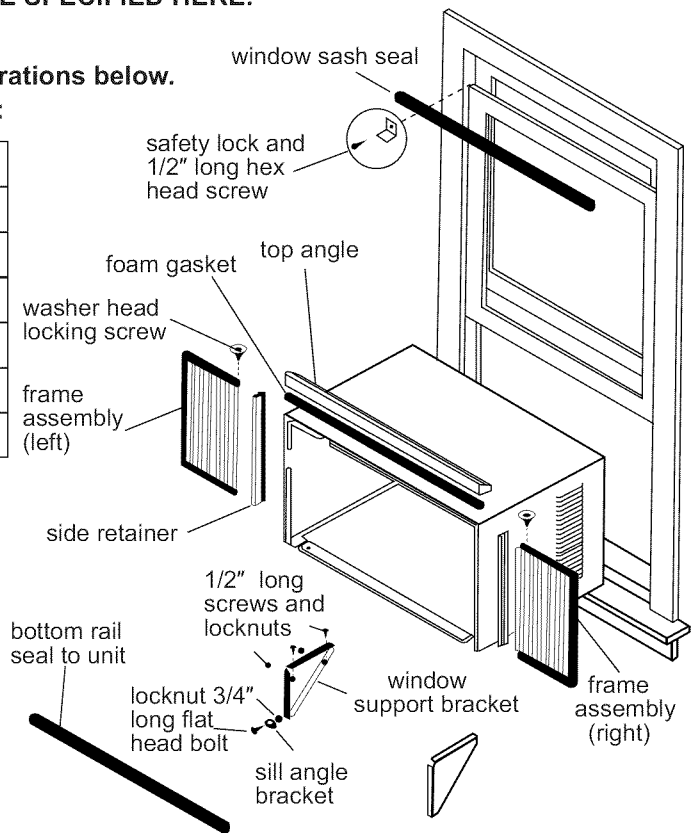

FIG.1
**1. Check window opening size:** the mounting parts furnished with this air conditioner are made to install in a wooden sill double-hung window. The standard parts are for window dimensions listed above. Open sash to a minimum of 19" (483mm). (FIG.1)